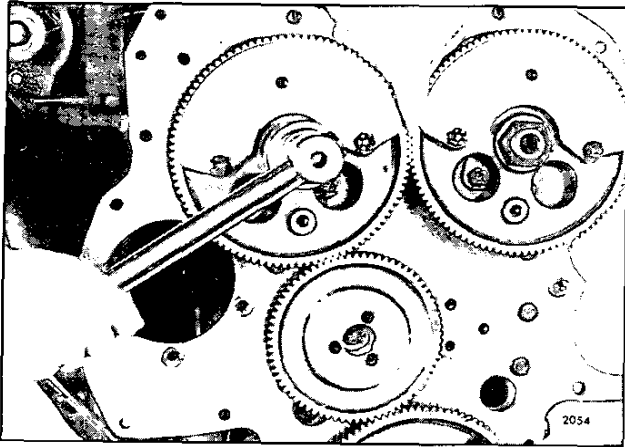

Fig. 1 – Removing or Installing Nut on Camshaft or Balance Shaft
7. Wedge a clean rag between the gears and remove the nuts from each end of both shafts with a socket wrench (Fig. 1).
5. Wedge a clean rag between the gears and remove the gear retaining nut from each end of the camshaft (Fig. 1).